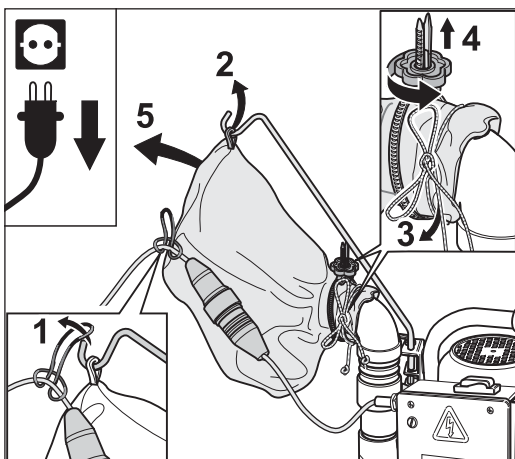

Fig. 53 Removing the dust bag.
- 4 Remove the strain relief ring together with the extension cable from the cable support (fig. 53, 1).
- 5 Unhook the sling on the dust bag from the cable support (fig. 53, 2).
- 6 Open the loop of the string on the dust bag (fig. 53, 3).
- 7 Undo the MultiClip fastener by unscrewing the nut (fig. 53, 4).
- 8 Pull off the dust bag from the pipe stub carefully (fig. 53, 5) and then use the string to close the dust bag so that no dust can escape on the way to the emptying location. Remove the MultiClip fastener.